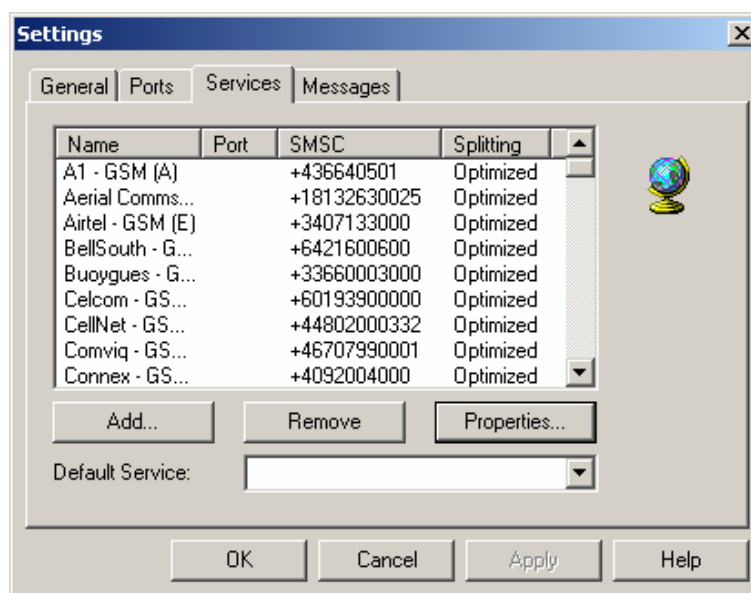
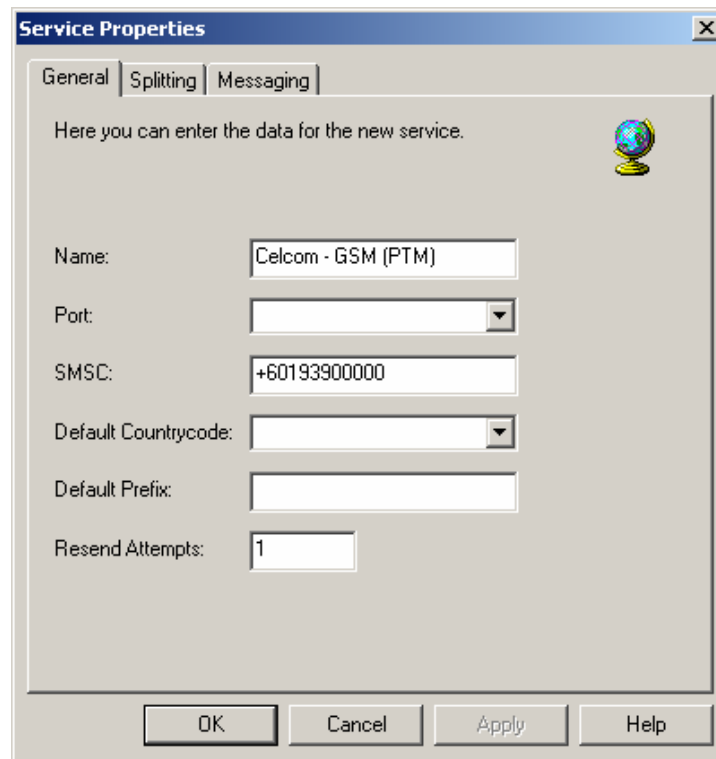

Figure A.14. SMS Configuration: Services Tab
Figure A.15. SMS Service Properties: General Tab
To configure SMS services, select the **Message Master GSM/PCS** option (see Figure A.4), and then click the **Config...** button. The **SMS Configuration** dialog box will appear, as shown in **Figure A.14**. On the **Services** tab, shown in Figure A.14, check for your pager service provider. Verify that the service modem phone number is correct by selecting the service provider and clicking the **Properties** button. This opens the **Service Properties** dialog box, shown in **Figure A.15**. For information about service properties, please see the "Setting up a New SMS Service" section below.
1. Click the **Add** button, as shown in Figure A.14. This opens the **Service Properties** dialog box, shown in Figure A.15.
2. On the **General** tab, shown in Figure A.15, configure the following parameters:
Note: If no port is configured, go to the **Ports** tab on the SMS Configuration **Settings** dialog box (see Figure A.14) and click the **Add** button to set up a port for GSM use.